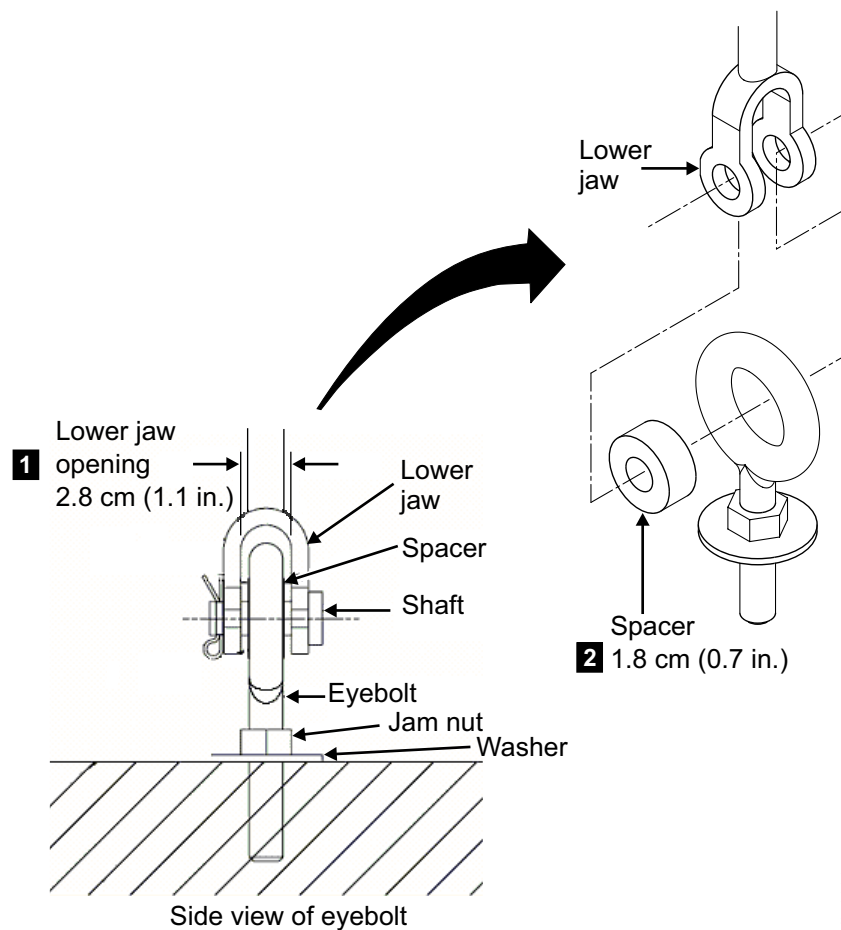

Figure 23. Eyebolt required dimensions. Dimensions are in millimeters (inches).
- The dimensions of the eyebolt must allow the turnbuckle lower jaw of the kit to fit over the eyebolt (**1** on Figure 23 on page 145) and allow the spacer of earthquake resistance kit to fit inside the eye (**2** on Figure 23 on page 145).